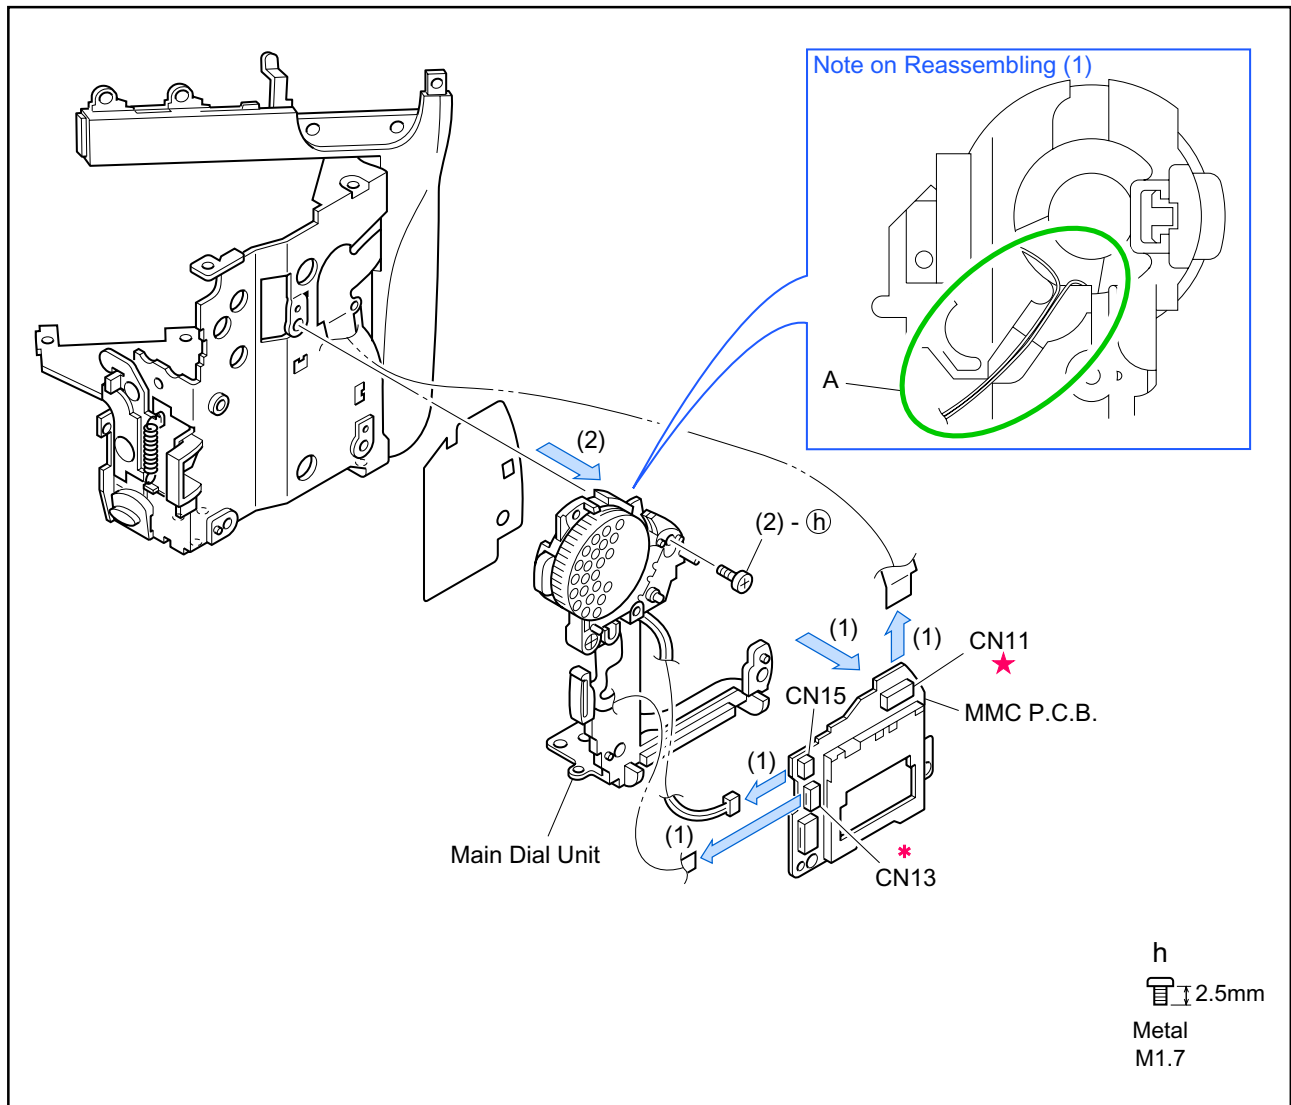

Fig. 4-11
- (1) The speaker wiring at the rear of Main Dial Unit should be run through the A part (in Fig. 4-11) for connection.